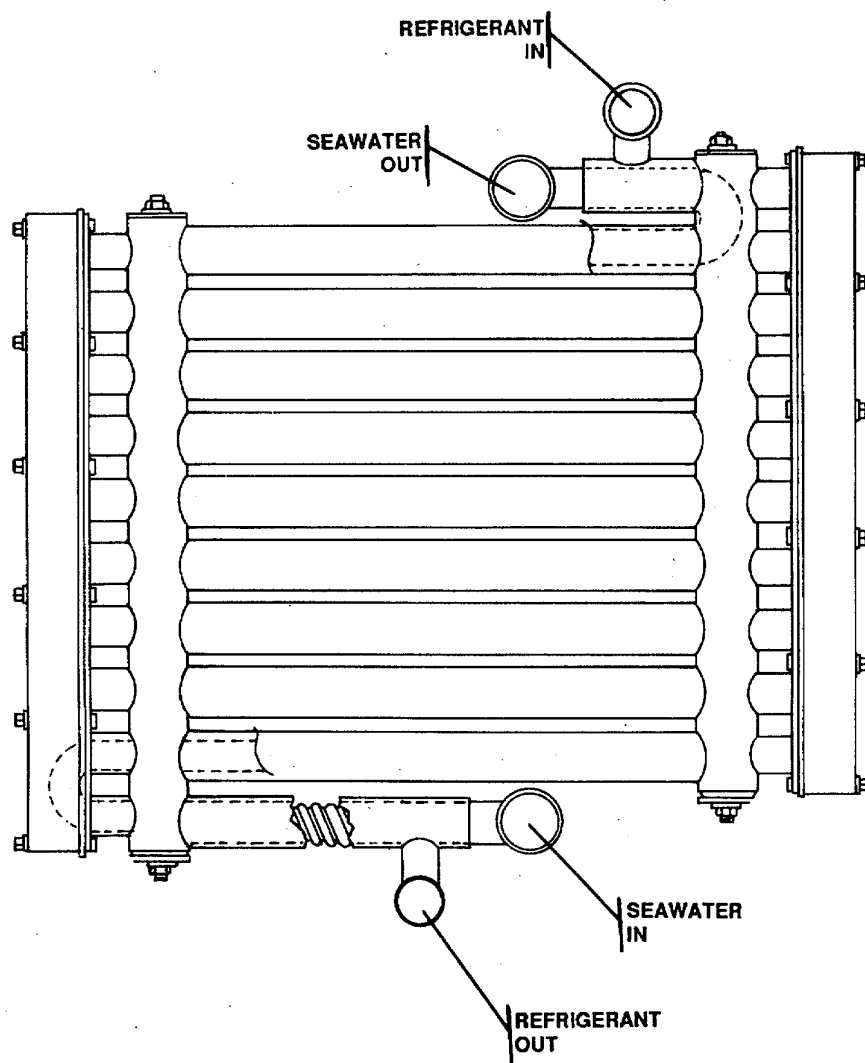

Figure 1-4. Water Cooling Process in Condenser .
- (1) The condenser serves two important functions:
- (2) The heat removal and condensing processes take place by a water cooling process. The refrigerant vapor is passed through an outer shell of the condenser tubes and cool seawater passes through an inner shell, or tubing (FIGURE 1-4). The seawater supplied to the condenser is at a lower temperature than the temperature of the refrigerant vapor. Heat from the refrigerant is transferred to the seawater through the inner tubing walls. The seawater then carries the heat from the condenser through a discharge or drain line. The condenser removes enough heat to change the refrigerant from a vapor to a liquid.